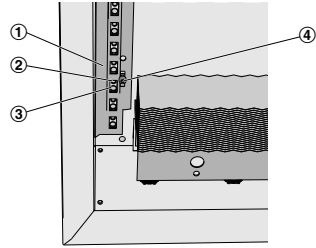

Fig. 12: Adjusting the nozzles on the DID614
- ▶ Loosen the Allen screws (SW4) (Fig. 12/4) of the flat adjustment bar (Fig. 12/1).
- small nozzle open (Fig. 12/2) (DS)
- large nozzle open (Fig. 12/3) (DB)